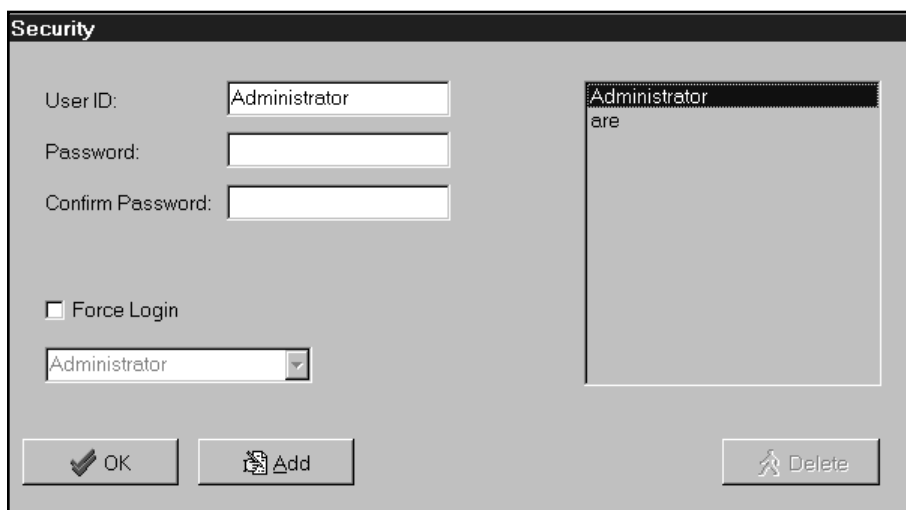

FIGURE XI-2
3. Enter "Administrator" in the User ID box and "Admin" in the Password box. (This default password allows entry to the highest level of security.) The Security screen is displayed. See Figure XI-2.